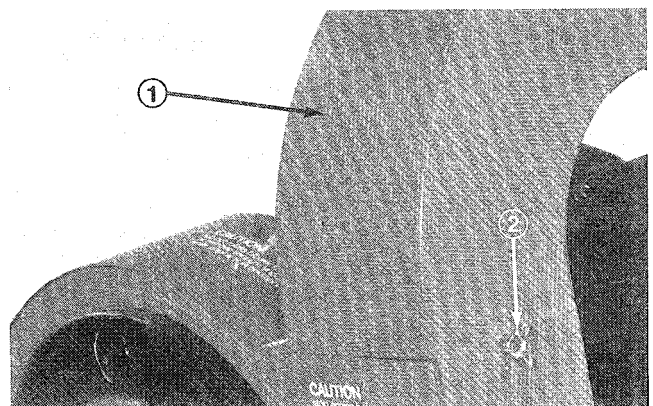

Figure 6
1. Install discharge chute and secure with chute retaining screw (Fig. 6).